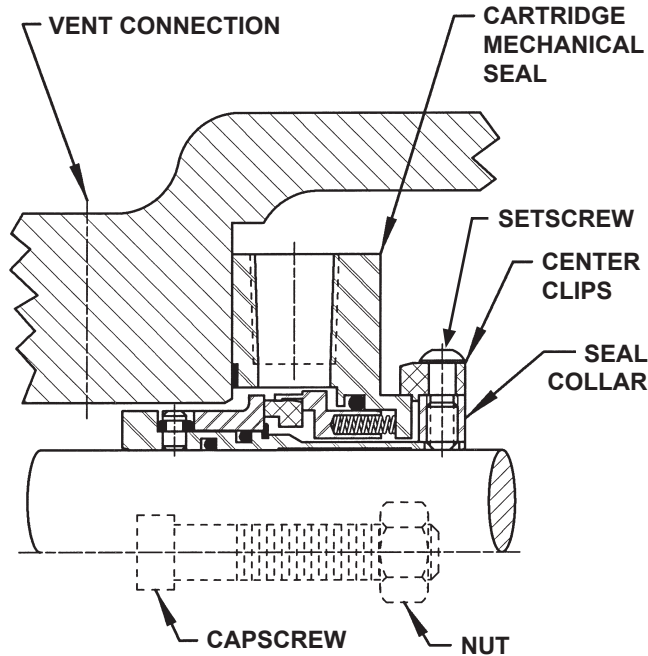

FIGURE 6
1. Cartridge (**Figure 6, page 8**)
2. (see Figure 6 below) Loosen setscrews on the seal collar to free the cartridge seal from the shaft.